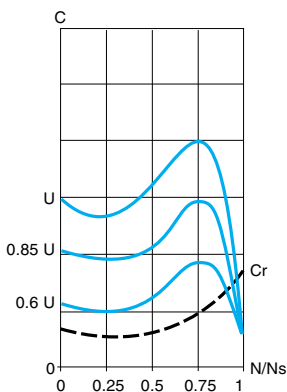

Figure 2
- Figure 2 shows the torque/speed characteristic of a squirrel cage motor in relation to the supply voltage.